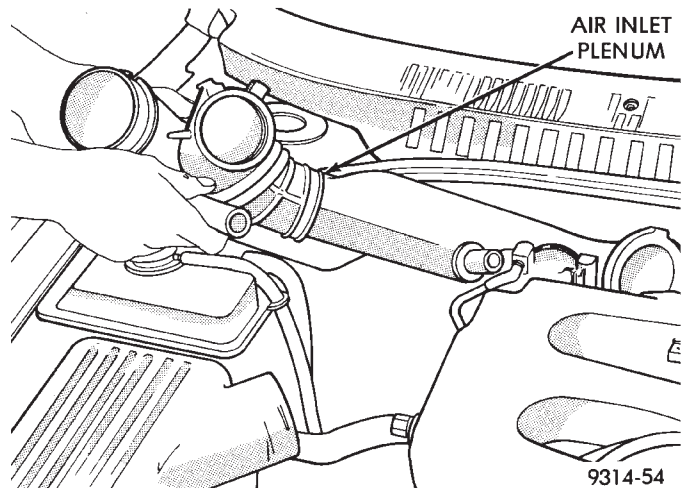

Fig. 22 Air Intake Plenum Installation
(14) On 3.5 ltr engine applications, install air intake plenum back into vehicle (Fig. 22). Connect air intake plenum to throttle bodies, PCV make up air tube and idle air control motor.